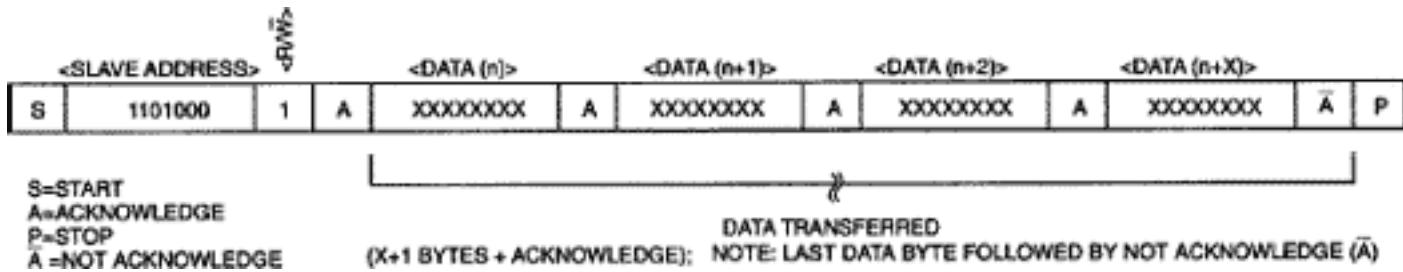

Figure 4. Data Read—Slave Transmitter Mode
- Slave transmitter mode (DS1307 read mode):** The first byte is received and handled as in the slave receiver mode. However, in this mode, the direction bit will indicate that the transfer direction is reversed. Serial data is transmitted on SDA by the DS1307 while the serial clock is input on SCL. START and STOP conditions are recognized as the beginning and end of a serial transfer (See Figure 4). The address byte is the first byte received after the start condition is generated by the master. The address byte contains the 7-bit DS1307 address, which is 1101000, followed by the direction bit (R/ W\), which for a read is a 1. After receiving and decoding the address byte, the DS1307 inputs an acknowledge on the SDA line. The DS1307 then begins to transmit data starting with the register address pointed to by the register pointer. If the register pointer is not written to before the initiation of a read mode, the first address that is read is the last one stored in the register pointer. The DS1307 must be sent a Not-Acknowledge bit by the master to terminate a read.